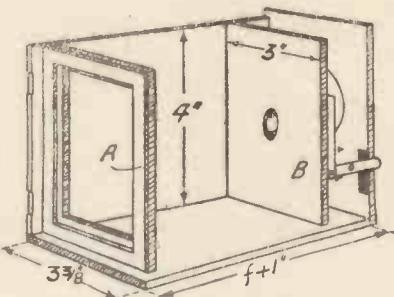

Fig. 2.—Details for fixing the Lens Board.
In Fig. 2 the length is given as " $f+1$  in." This means the focus of your lens plus 1 in. Thus, if your lens focus measures 4 in., make your camera body 5 in. long, and so on. For the body (and elsewhere, except otherwise specified) use  $\frac{1}{16}$  in. fretwood, and in fitting it together take great care that the joints are light-tight. Use glue and very small nails, drilling holes first to prevent the wood splitting.
To make the plate carrier A (Fig. 2), cut a piece of wood 3 in. by 4 in. and in this cut an opening  $2\frac{1}{4}$  in. by  $3\frac{1}{2}$  in. Cut a second piece from  $\frac{1}{16}$  in. wood to the same size, and in it make an opening a shade larger than  $2\frac{1}{2}$  in. by  $3\frac{1}{2}$  in. Glue the two pieces together, thus forming a frame with a rebate into which a plate fits neatly. Glue it in the camera body  $\frac{3}{16}$  in. from the end (see Fig. 2).
**Fixing the Lens.**—Next make the lens board B (Fig. 2). A hole is cut in the centre into which the lens fits tightly, being secured by a touch of glue. To find its exact position in the camera, make a temporary focusing screen by gumming a piece of thin white paper in the rebate in the plate carrier; then, having glued the edges of the lens board, push it into the camera until the image on the screen is sharply focused.